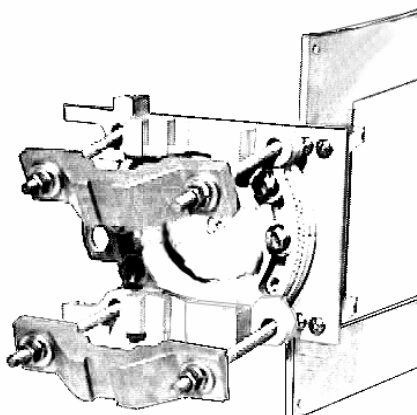

Figure 4-15: Fastening the Unit to the Mast
14. Fasten the unit to the mast using the mounting brackets, washers, lock-washers and hex nuts (fully tighten the hex nuts) as shown in Figure 4-15
10. Fasten the unit to the mast using the mounting brackets, washers, lock-washers and hex nuts (fully tighten the hex nuts) as shown in Figure 4-15.